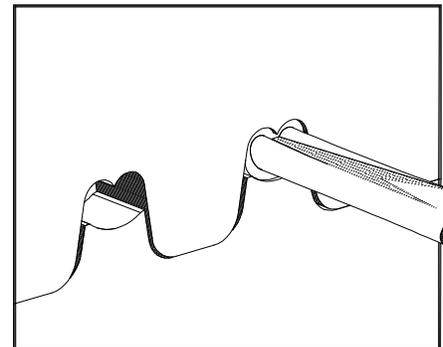

Figure 3
3. Place a wire into the terminal and up against the locator blade, (See Figure 3). On tools without locators, line the wire up with the conductor and insulation grips visually.